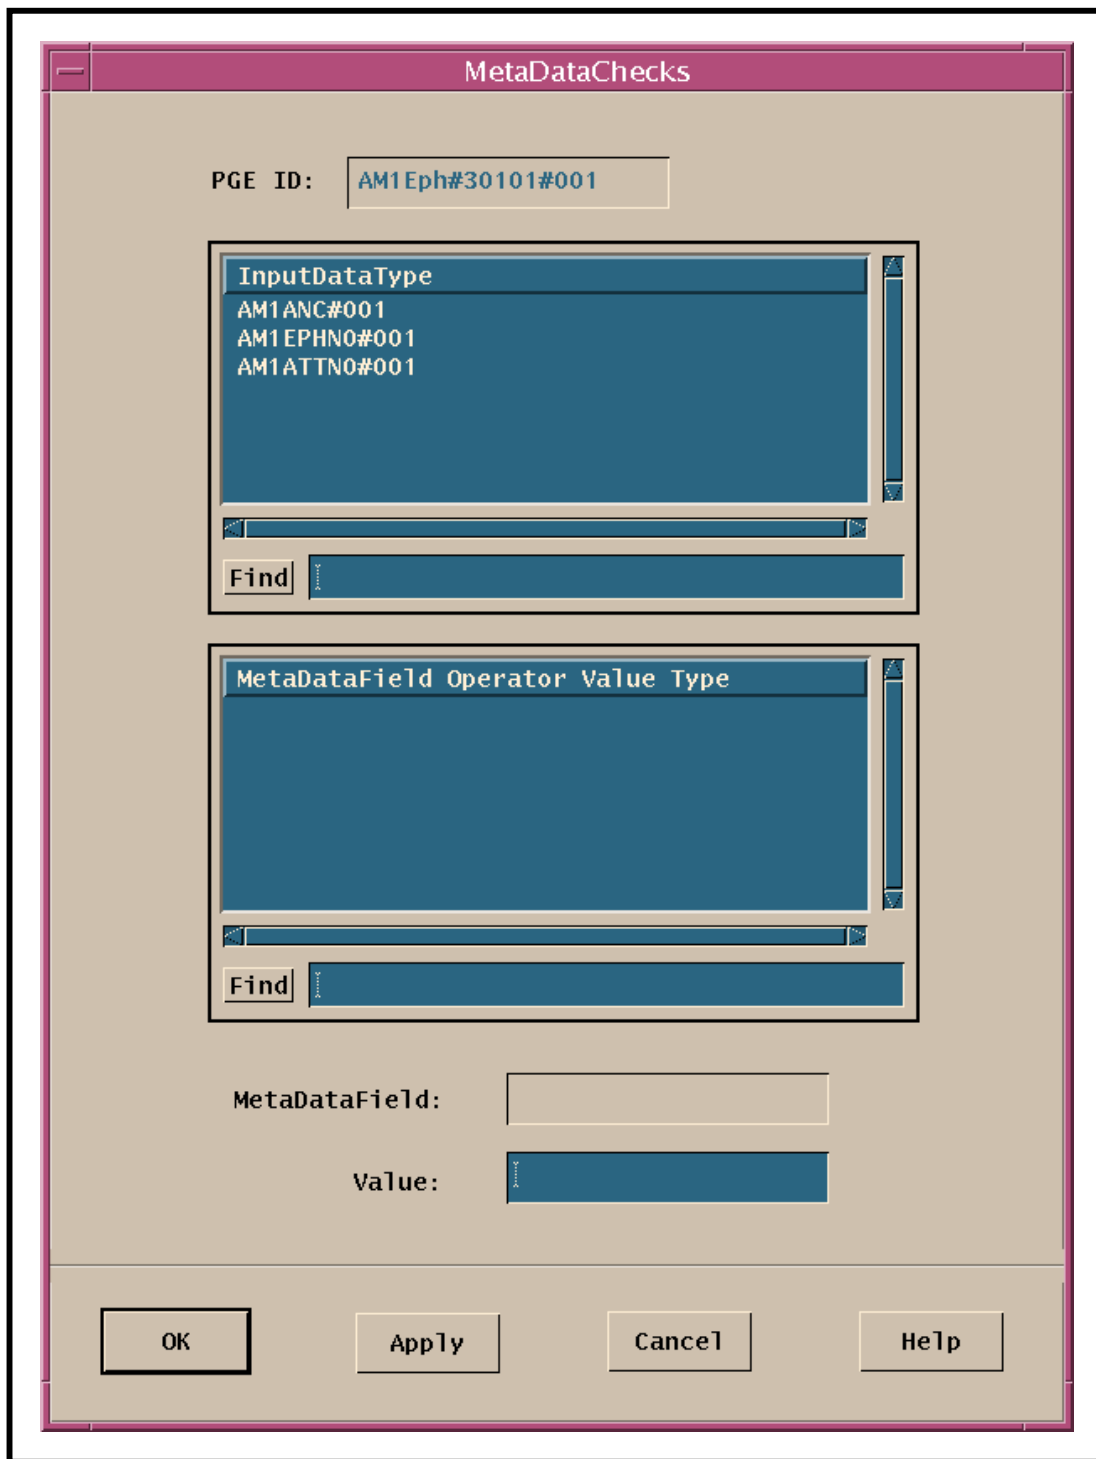

Figure 21. MetadataChecks GUI
- The **MetadataChecks** GUI page (Figure 21) is displayed.